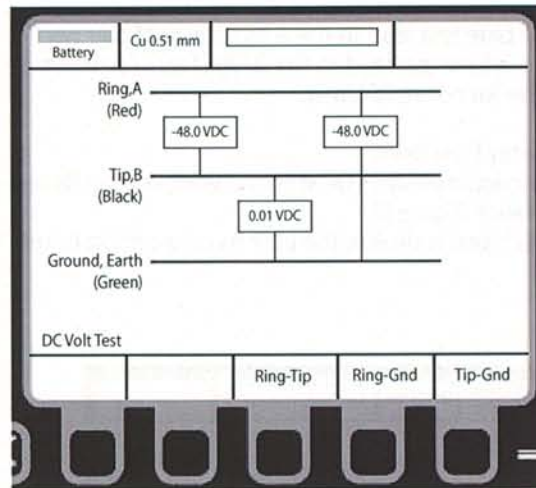

Figure 7 - DC Voltage test screen
3.1 Measuring AC or DC volts (Figure 7)